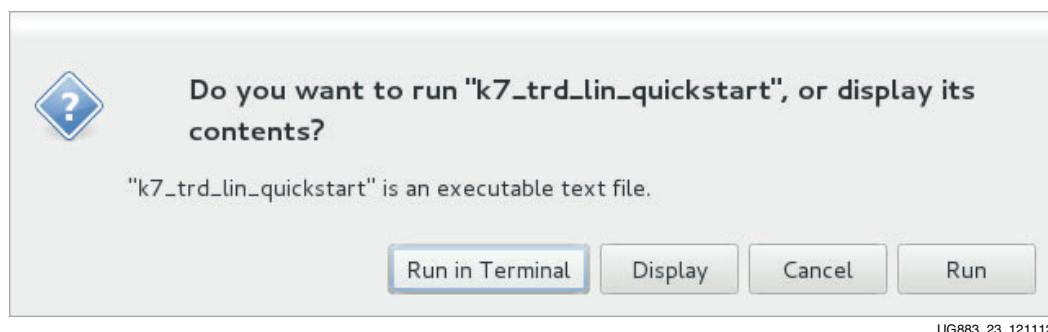

Figure 23: Run `k7_lin_trd_quickstart`
- c. A window prompt appears as shown in Figure 23. Click **Run in Terminal** to proceed.